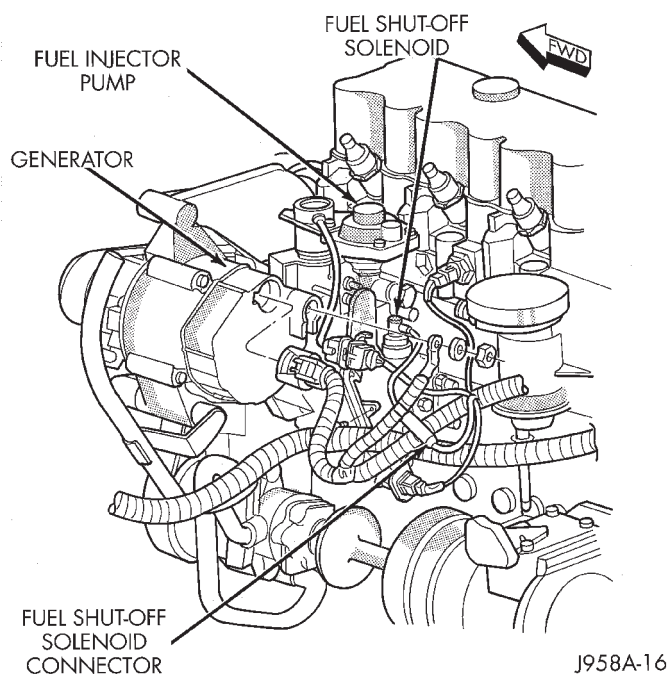

Fig. 3 Fuel Shut Off Solenoid Connector- Diesel Engine
- Unplug the Automatic ShutDown (ASD) relay to prevent a gasoline engine from starting. The ASD relay is located in the Power Distribution Center (PDC). Refer to the PDC label for ASD relay identification and location. To prevent a diesel engine from starting, unplug the fuel shut off solenoid wire harness connector (Fig. 3).